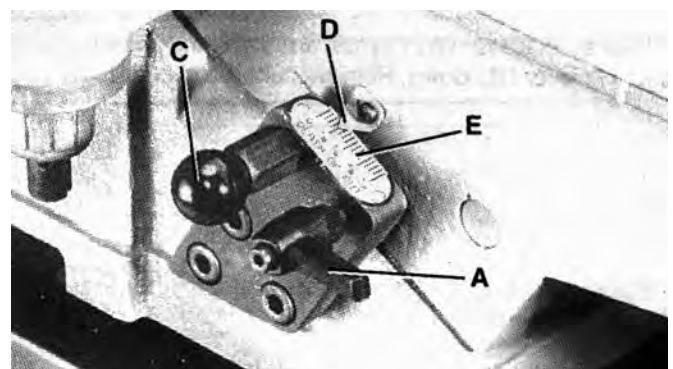

FIGURE 27
2. **NOTE:** When raising or lowering the infeed table a plunger located on other end of index stop (C) Fig. 27, automatically stops the table at 1/8" depth of cut. To move the table past this point it is necessary to pull out index stop (C) and move the table up or down. **IMPORTANT:** Always make sure table lock handle (A) is tightened before operation. The table lock handle (A) is spring-loaded and can be repositioned by pulling out the handle and repositioning it on the serrated nut located under the handle.
3. The depth of cut of the infeed table (position of table in relationship with the cutting circle) can be read with the pointer (D) Fig. 27, and scale (E). Maximum table depth adjustment with this 6" jointer is 1/2".